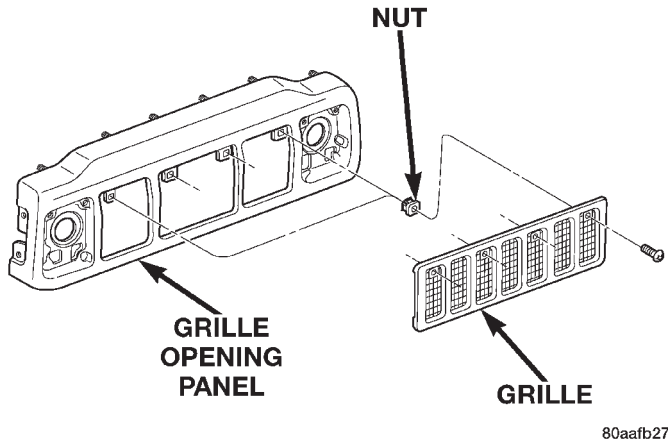

Fig. 1 Grille
- (1) Remove the headlamp/park lamp bezels.
- (2) Remove the screws attaching the grille to the grille opening panel (GOP) (Fig. 1).
- (3) Separate the grille from the GOP.